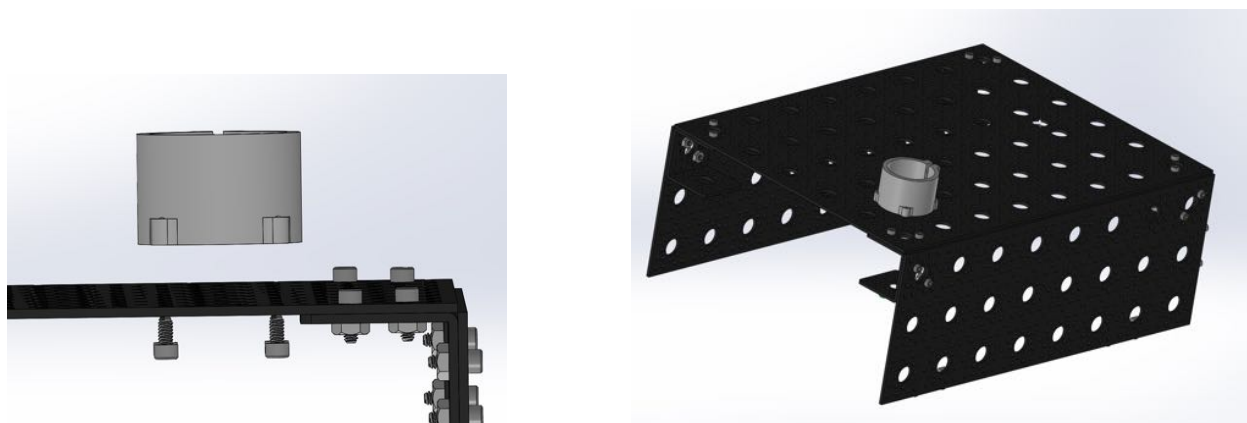

Figure 5: Attach the PVC clamp to top plate
3. **Attach the PVC clamping hub:** Attach the 1-inch PVC bore clamping hub **S24** to the top plate of the body using screws **B1** wherever you would like your rover's "neck" to protrude from the body. We suggest using the location shown in Figure 5.